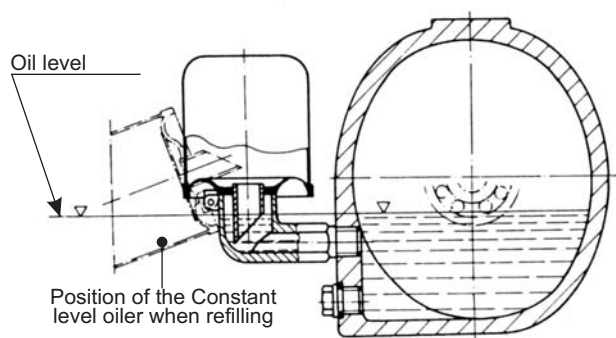
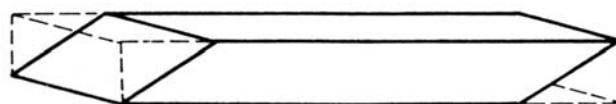

Fig. 18 - Constant level-oiler
Fig. 19 - Slanted cut of the packing rings
Wait approximately 10 minutes until part of the oil go down automatically from the reservoir to the bracket, completing the necessary level, which is stated at the central line of the bearing lowest ball, as shown on fig. 18.
- Cut the new packing rings, if possible with slanted ends (see fig. 18). To facilitate this cutting operation a very simple device may be constructed as shown in fig.19.